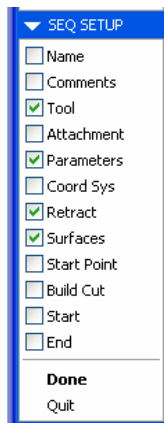

Figure 6: Sequence Setup
Step 4: Check the Machining Parameters shown in Figure 6:
Pro/ENGINEER will check the **minimum** parameters required for a specific machining operation. Notice in Figure 6 the parameters that are checked and the parameters that are unchecked. Many of these selections, such as name and comments, are optional. Others, such as Tool and coordinate system (Coord Sys), are required. The Coordinate System option is not checked since it was defined in the previous segment of this tutorial.
Step 5: Select **DONE** on the Sequence Setup menu (Figure 6)